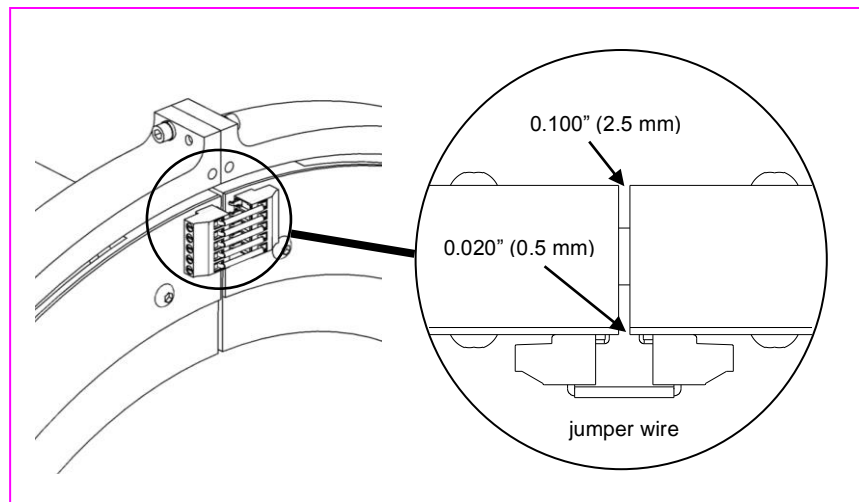
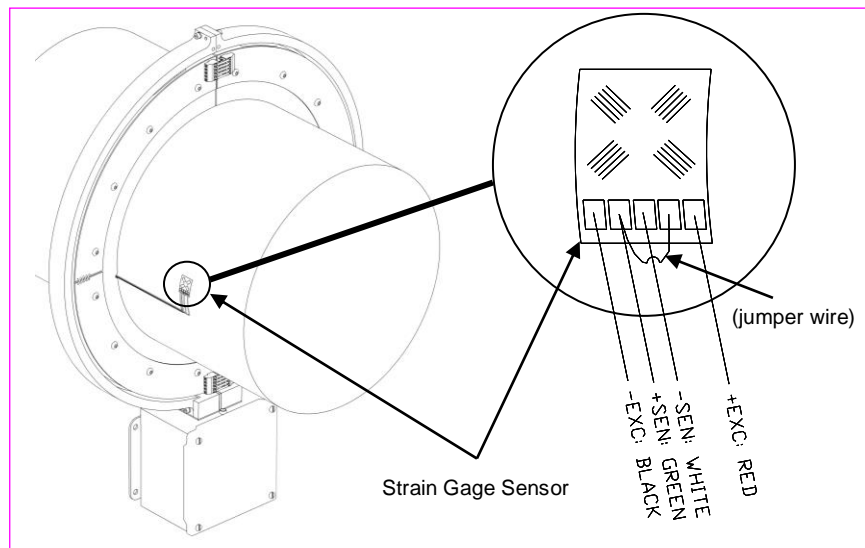

Figure 9 - Correct Collar Gap Spacing
Figure 10 – Strain Gage Connections
3. Apply anti-seize compound (provided) to threads of collar bolts. Assemble collar on shaft adjacent to gage with ribbon cable from collar leading towards gage. (Refer to Figure 1 on page 3 or Figure 10 on page 20.) Install opposing collar bolts from opposite directions to maintain balance. Tighten alternate bolts evenly until gap between collar halves is .100" (2.5mm) at all junctions. (See Figure 9 below.)
4. After collar is bolted on the shaft, place jumper wires (provided) in the screw terminal connectors at each collar junction as shown in Figure 9 and tighten securely.
6. Securely mount Master Control Unit to machine or mounting plate (not provided) so that the Rotating Collar is centered within the Power Ring. (Refer to Figure 1 on page 3 or Figure 10 on page 20.) For larger systems, use the Support Brackets provided to stabilize and support the Power Ring with additional braces.
12. Trim ribbon cable from Rotating Collar to length then connect (solder) cable to sensor. (Refer to Figure 10 below.) Note: Keep ribbon cable as short as practical (6 to 8 inches typical) to avoid unwanted electrical noise. For long cable runs consider using shielded cable. Secure ribbon cable to shaft using adhesive or fiberglass tape or more permanent methods as appropriate.